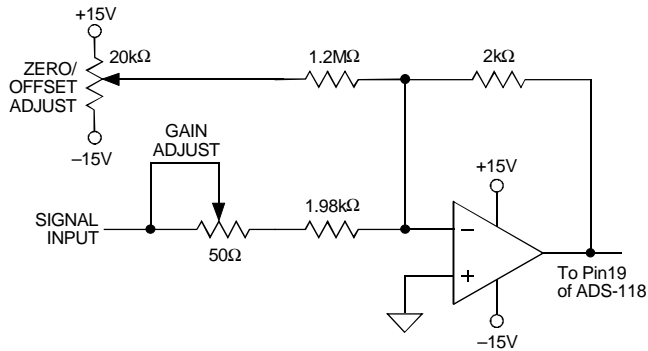

Figure 2a. Optional ADS-118 External Gain and Offset Adjust Circuits
- the adjustment circuitry shown in Figures 2a and 2b. When using this circuitry, or any similar offset and gain-calibration hardware, make adjustments following warmup. To avoid interaction, always adjust offset before gain.
Any offset and/or gain calibration procedures should not be implemented until devices are fully warmed up. To avoid interaction, offset must be adjusted before gain. The ranges of adjustment for the circuits in Figures 2a and 2b are guaranteed to compensate for the ADS-118's initial accuracy errors and may not be able to compensate for additional system errors.